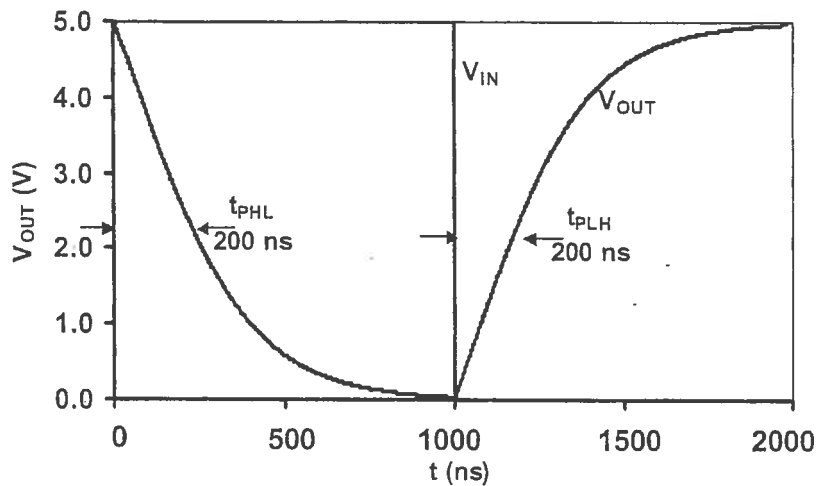

Figure 9.85.
b. From the SPICE results, $t_{PLH} = t_{PHL} = 200ns$ as shown in Figure 9.85.